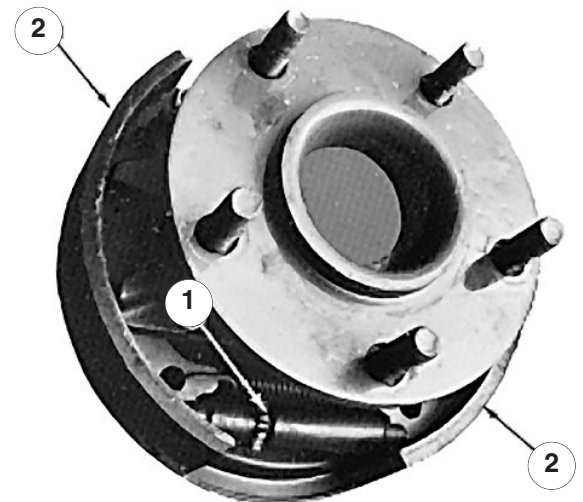

Figure 47
6. Using a brake adjusting tool or screwdriver, turn the star nut (Fig. 46) down until the brake drum (Fig. 47) locks because of outward pressure of the brake shoes (Fig. 47).